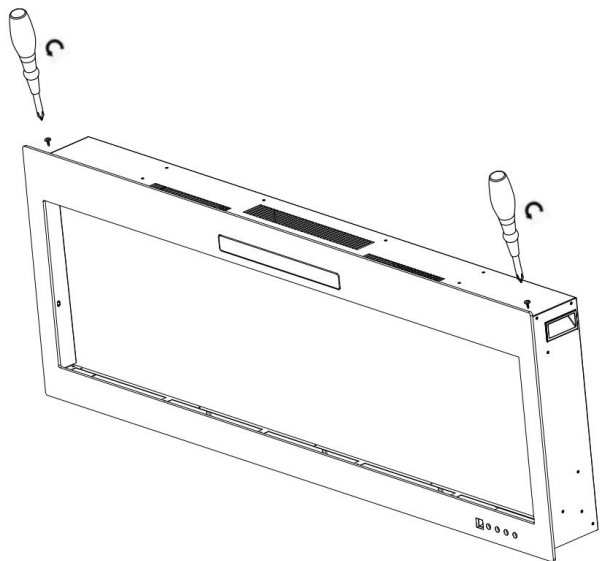

Fig. 1-1
A. Take off the screws on both side.(Fig. 1-1)